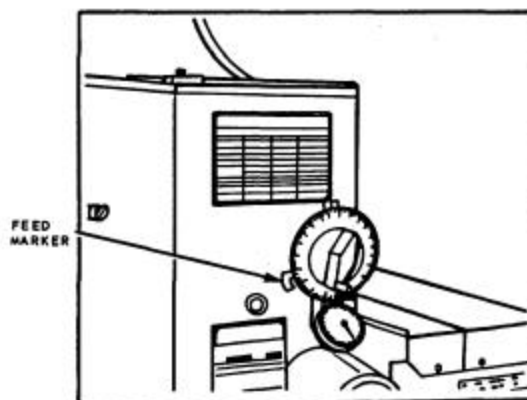

FIGURE 28
- k. See Figure 28. Back off Feed Dial until Feed Marker is at 8 o'clock position.